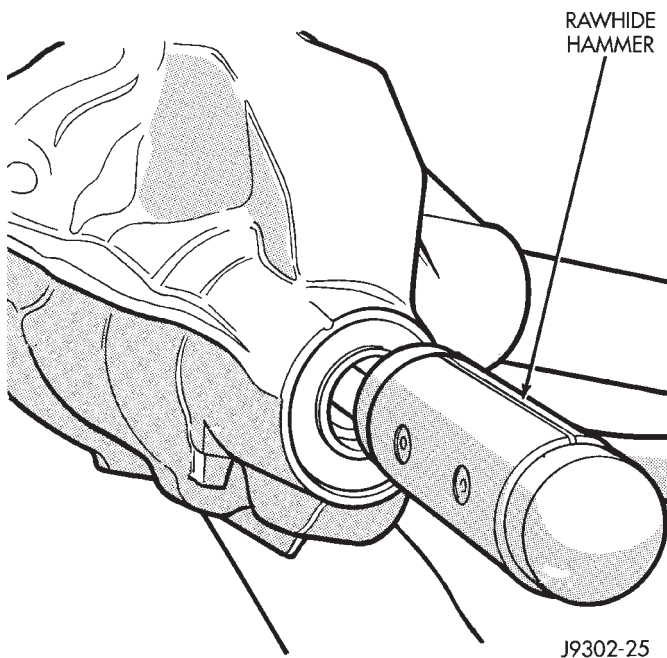

Fig. 17 Remove Pinion Gear
(11) Remove the pinion gear from housing (Fig. 17). Catch the pinion with your hand to prevent it from falling and being damaged.
(12) Remove collapsible spacer from pinion shaft.